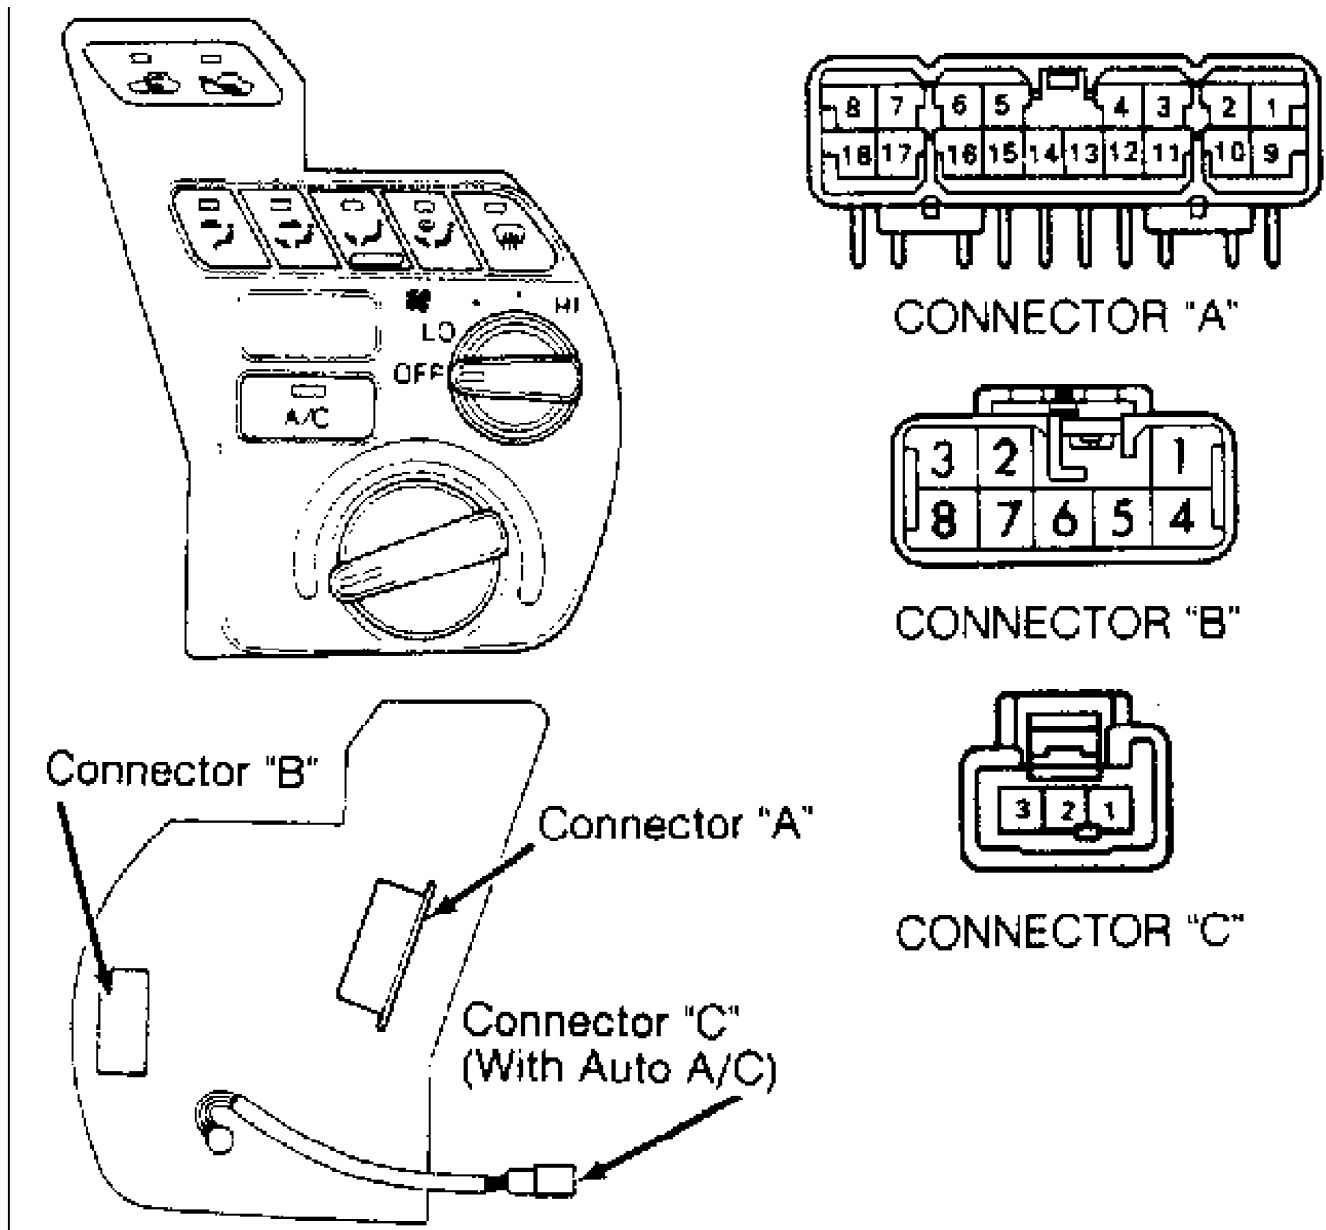

Fig. 2: Identifying Heater Control Assembly Connector Terminals
1) Disconnect wiring harness connector "A" of heater control assembly. See Fig. 2. With recirculation button depressed, continuity should exist between terminals No. 2 and 7.
Disconnect wiring harness connector "A" of heater control assembly. See Fig. 2. Check for continuity at specified terminals. See TESTING AIRFLOW MODE CONTROL SWITCH table. If continuity is not as specified, replace heater control assembly.
Disconnect wiring harness connector "B" of heater control panel. Using an ohmmeter, check continuity between specified terminals and switch positions. See Fig. 2. See appropriate TESTING BLOWER SPEED CONTROL SWITCH table. If continuity is not as specified, replace blower switch.